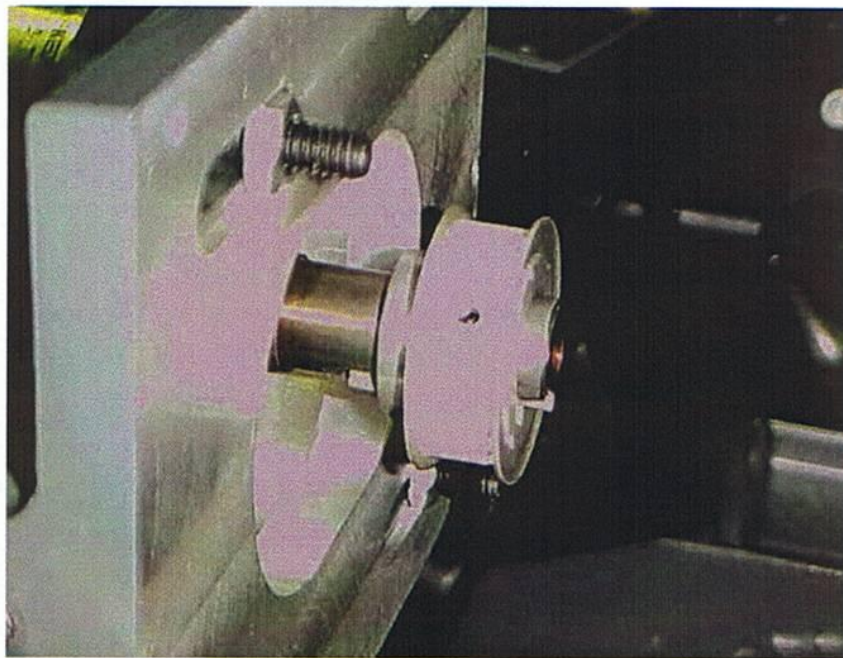

**Figure 13**
- }. Reinstall the bearing access plate on the bottom of the lower assy. fasten using the (4) 4-40 x 3/8" BHCS that were removed at dissassembly.
- l. Place the screw pulley (hub up) and key in place on the end of the ball screw and fasten securely. **(see figure 13)**